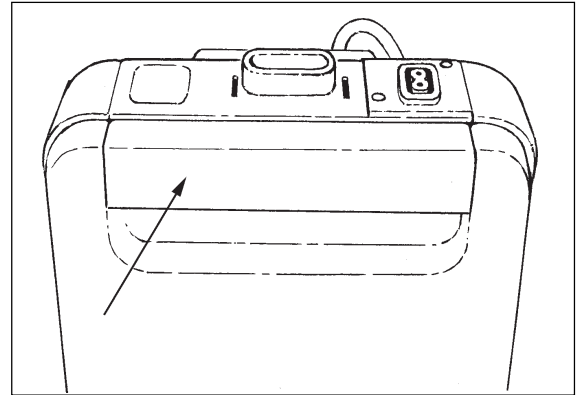

Figure 3
2. Open the front of the tank housing. To open the tank housing, press the tank release bar. See figure 3.